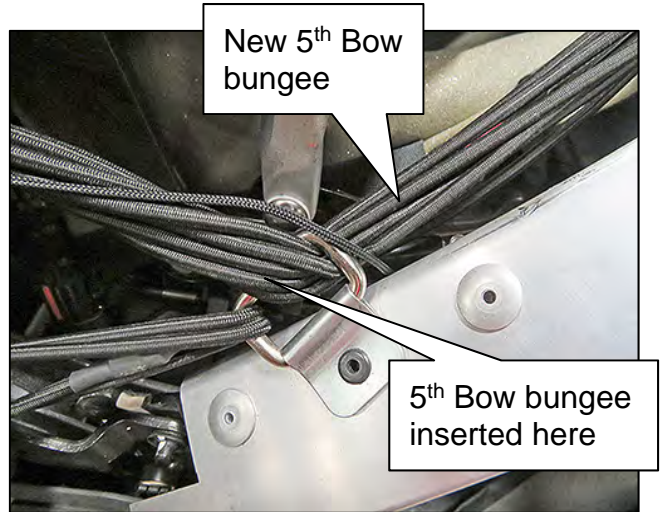

Figure 22
26. Insert the 5th Bow bungee (BUNGEE-5TH BOW) through the bracket assembly installed in step 15 on page 8 (Style A) or in step 24 on page 12 (Style B) (Figure 22).